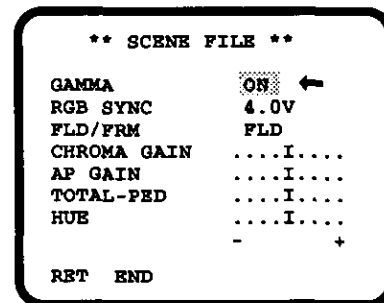

Fig.45.
- The scene file menu is displayed as shown in Fig.45.